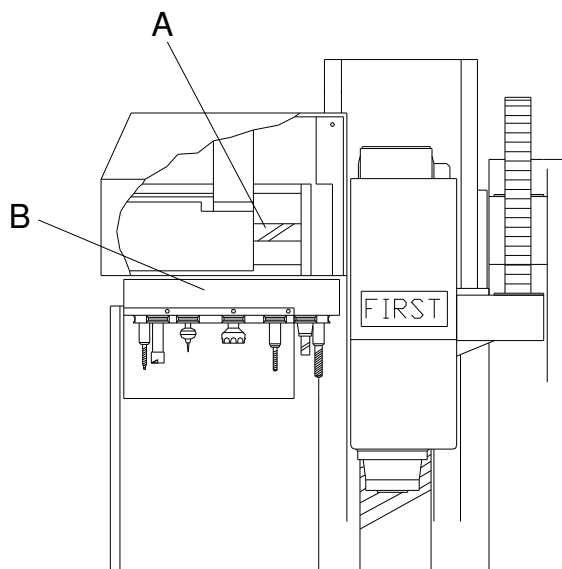

FIG. 6.4.3 GREASING TO AUTOMATIC TOOL CHANGER SYSTEM
THE CROSS CAM MACHANISM GUIDE (A) AS SHOWN IN FIG 6.4.3 IS USED FOR ATC CROSSWISE MOVEMENT.
THE GENEVA MACHANISM (B) AS SHOWN IN FIG 6.4.3 IS USED FOR ATC TOOL DISK ROTATEING.